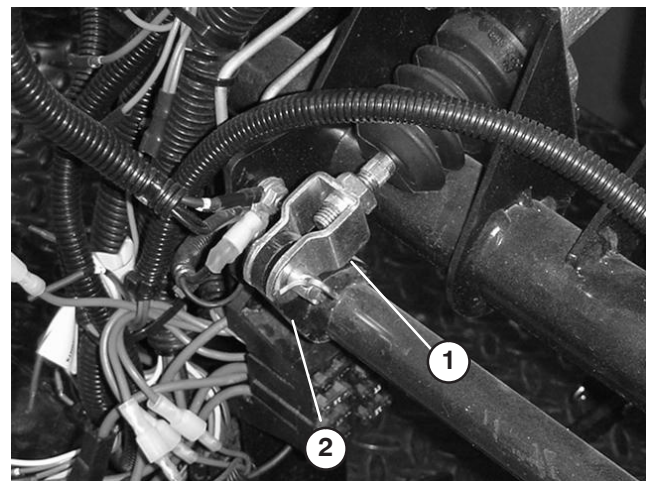

Figure 43
1. Remove cotter pin and clevis pin securing master cylinder yoke to brake pedal pivot (Fig. 43).
3. Loosen jam nuts securing yoke to master cylinder shaft (Fig. 43).